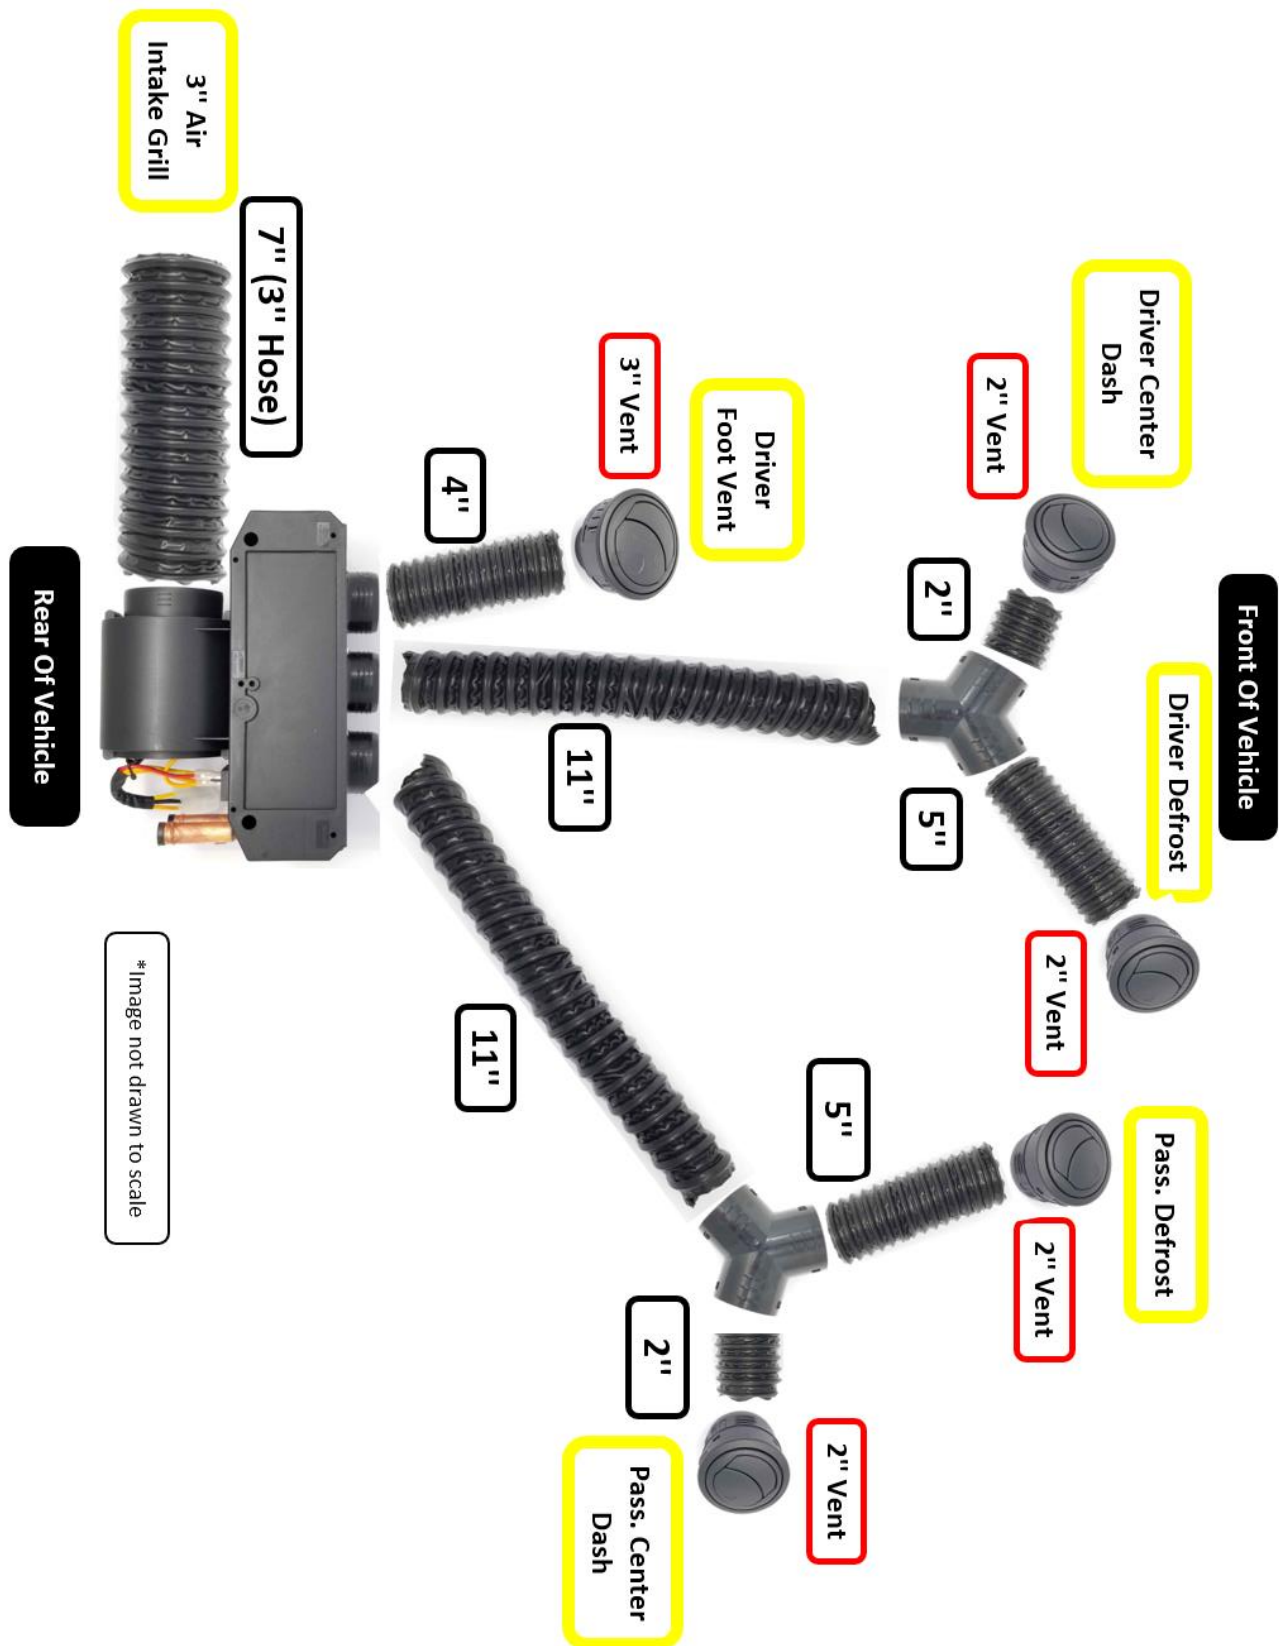
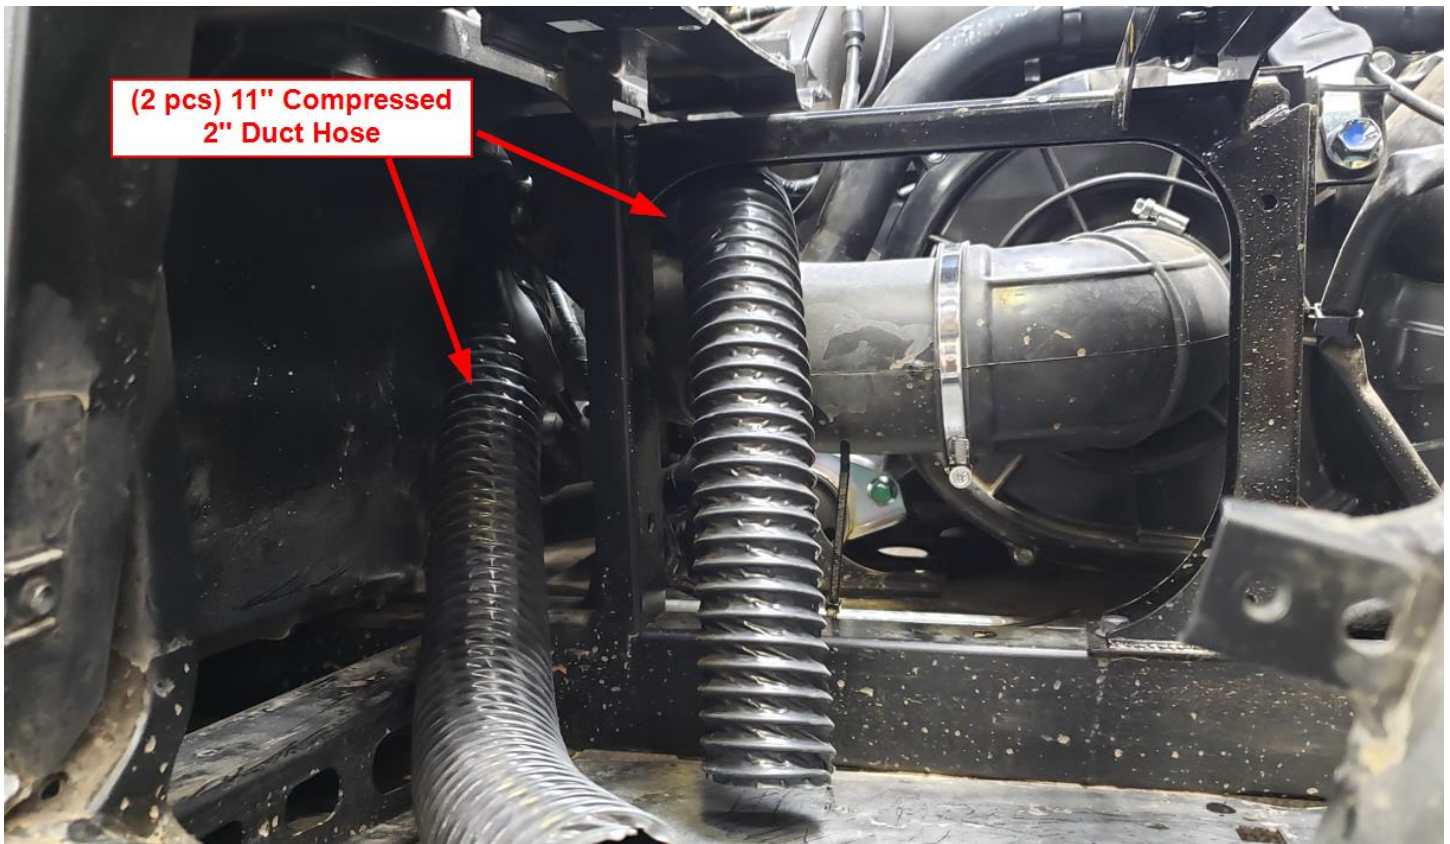

Figure 19
Figure 20
- c. For the following steps refer to the hose routing guide in Figure 19. Using the 2" flexible duct hose, measure out (2) 11" pieces of compressed hose. **NOTE: It's critical these measurements are taken in a compressed state.** Route the hoses from the center tunnel to the driver seat area as shown in Figure 20.